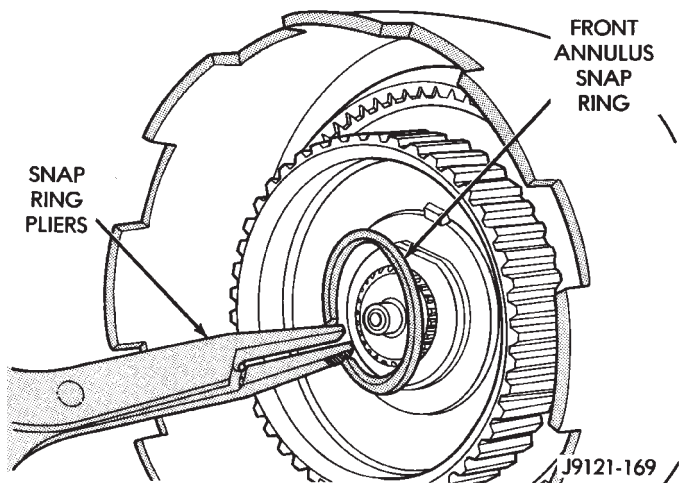

Fig. 162 Installing Front Annulus Snap Ring
(20) Install front annulus snap ring (Fig. 162). Use snap ring pliers to avoid distorting ring during installation. Also be sure ring is fully seated.